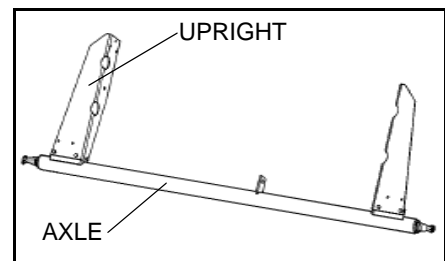

Figure 3.14 Axle Assembly
2. Attach upright brackets to axle using six 7/16" x 1-1/4" bolts and locknuts, hand-tightened only (see Figure 3.14).